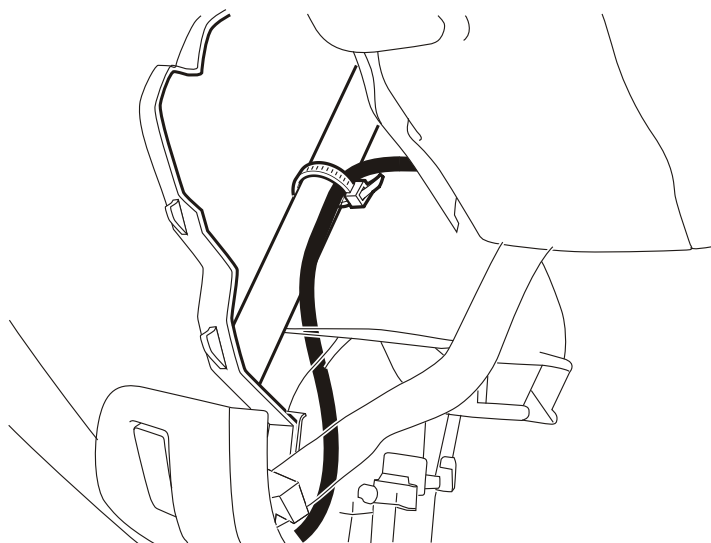

Figure 23
38. Cable tie the canopy power harness to the dashboard support brace. Refer to figure 23.